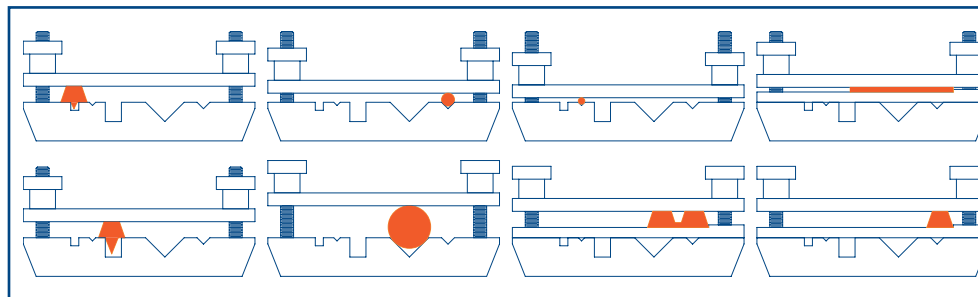

Figure 2
5. Figure 2 illustrates possible belt clamp mounting positions. Starting on one side, loosen the clamp nuts and place belt in desired clamping position. Slide belt in clamp so that the end is halfway between the two mounting clamps. Tighten clamp nuts. **Note: For round and ridge top profiles, remove bottom plate.**